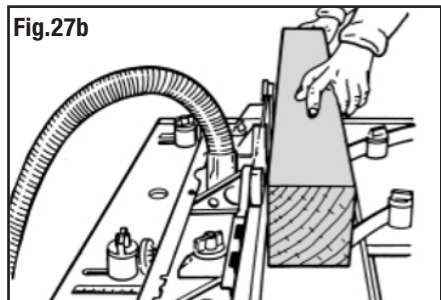

Fig.27b
- Re-fit the shims behind the rear MDF fence face, then flip the workpiece and complete the second pass (Fig 27b)